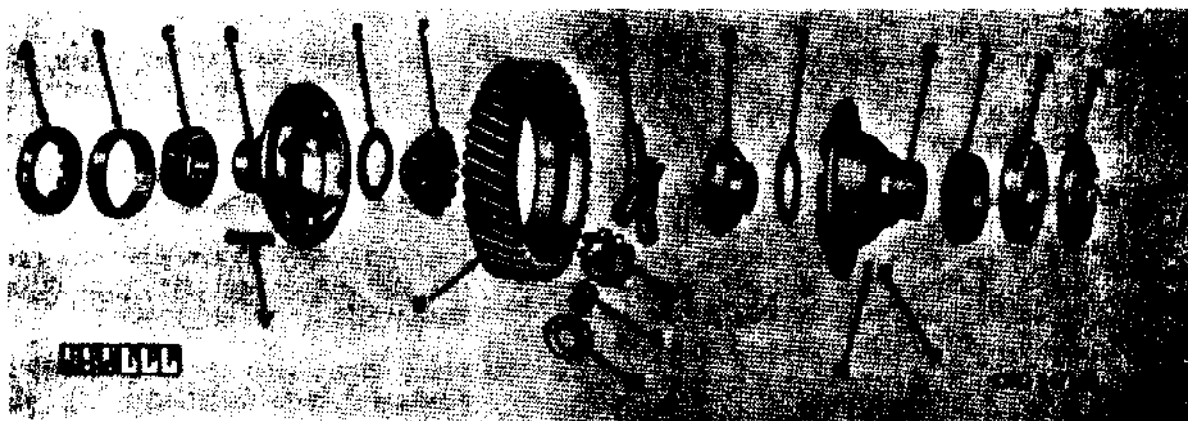

Figure 370. Differential assembly - exploded view
a. Disassembly (Fig. 370).
- (1) Punch an index mark on each half of differential case to assure original relative position when assembling.